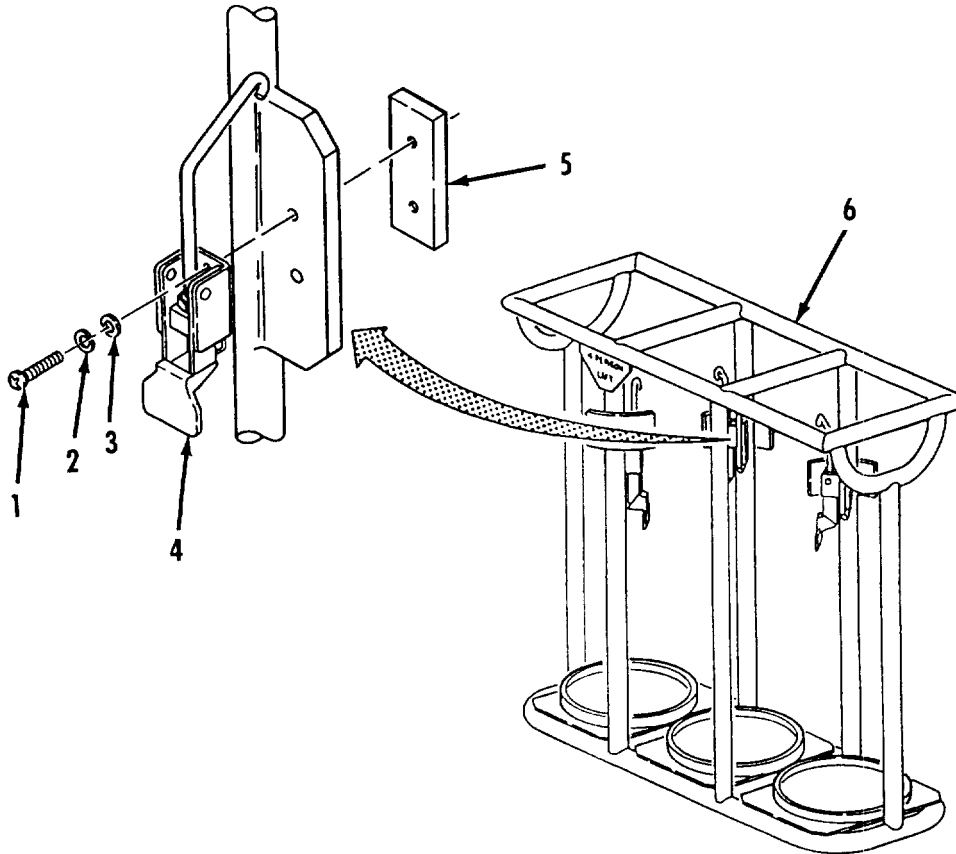

Figure 4-13. Fire Extinguisher Frame Repair.
- a. Disassembly. Refer to figure 4-13.
- (1) Remove two screws (1), lockwashers (2), flat washers (3), latch (4) and nut plate (5) from frame (6).
- (2) Repeat step (1) for two remaining latches (4).
- d. Assembly. Refer to figure 4-13.
- (1) Position nut plate (5) and latch (4) on frame (6).
- (2) Install two flat washers (3), lockwashers (2) and screws (1) and attach latch (4) and nut plates (5).
- (3) Repeat steps (1) and (2) for two remaining latches (4).